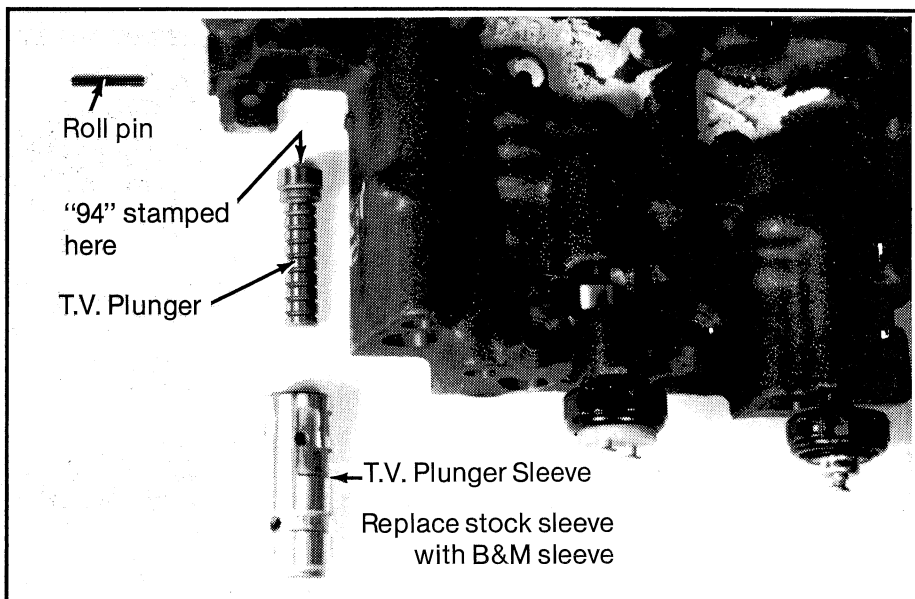

Figure 2
STEP 3. Carefully pull the roll pin shown in **Figure 2** out of the valve body. Pull plunger and sleeve out of valve body.